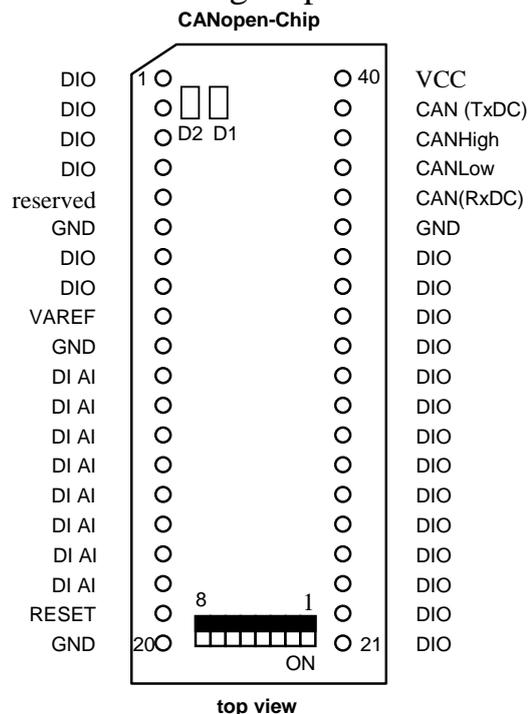
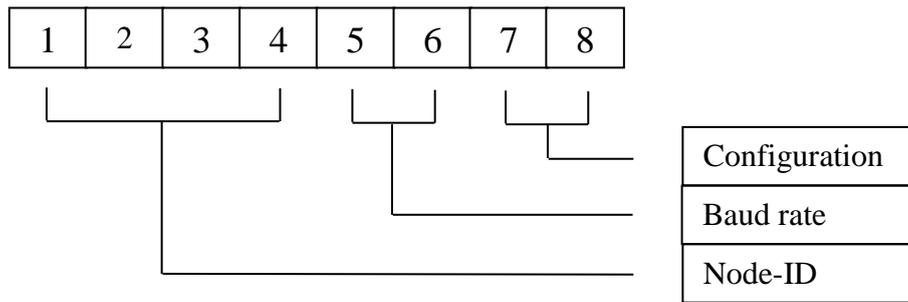

Figure 1: Pin Layout
Figure 2: *DIP-switch Pinout and Functions*
Please note that all module connections are not to exceed their expressed maximum voltage or current. Maximum signal input values are indicated in the corresponding controller User's Manual/Data Sheets located on the SYS TEC Products CD. As damage from improper connections varies according to use and application, it is the user's responsibility to take appropriate safety measures to ensure that the module connections are protected from overloading through connected peripherals. All controller signal extend to the pin header connector without any additional protection circuitry. External circuitry in which the CANopen Chip CoC-100 is implemented must follow the guidelines for EMC conformance. As *Figure 1* indicates, all controller signals extend to standard-width (2.54 mm / 0.10 in.) pin rows lining two sides the board (referred to as DIPmodul-connector). This allows the CANopen Chip CoC-100 to be plugged into any target application like a "big chip".
*Figure 2* shows the DIP-switch pinout and functions. The switch position "OFF" corresponds to logic-zero or low-level signals while "ON" represents high level or logic-one. See *Figure 1* for location and switch positions.